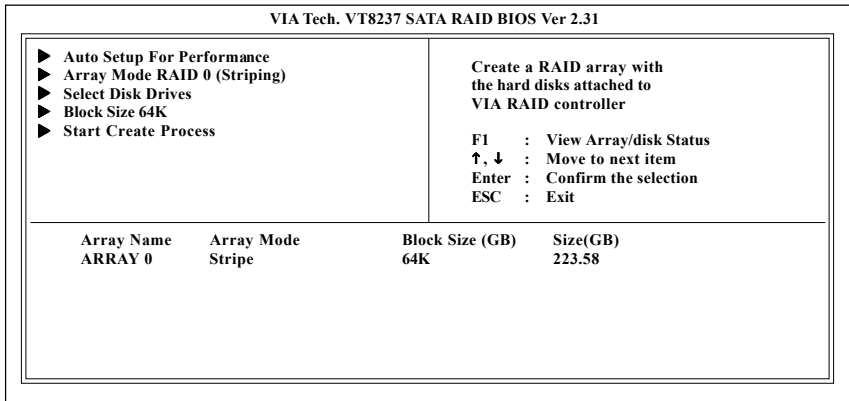

Figure 10
5. When the configuration is completed, you may check the RAID information by pressing the <F1> key (Figure 10).